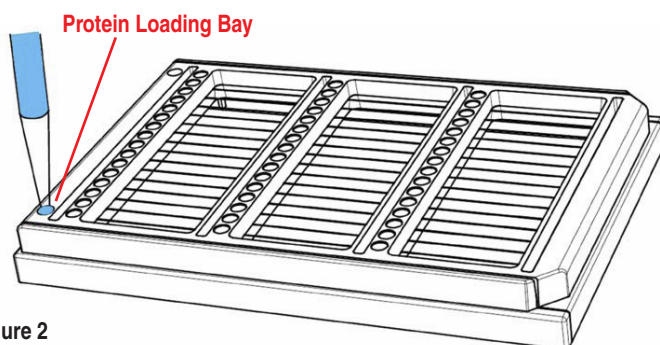

Figure 2
2. Pipette 22-23 μ l of protein solution into the lower protein loading bay located on the bottom left hand side of the plate (Figure 2).